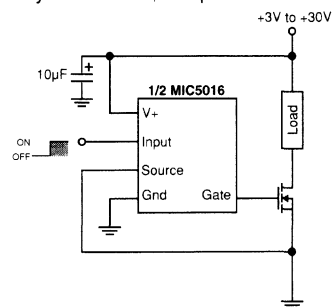

Figure 2. Low Side Driver
**Low Side Driver** (Figure 2) A key advantage of this topology, as previously mentioned, is speed. The MOSFET gate is